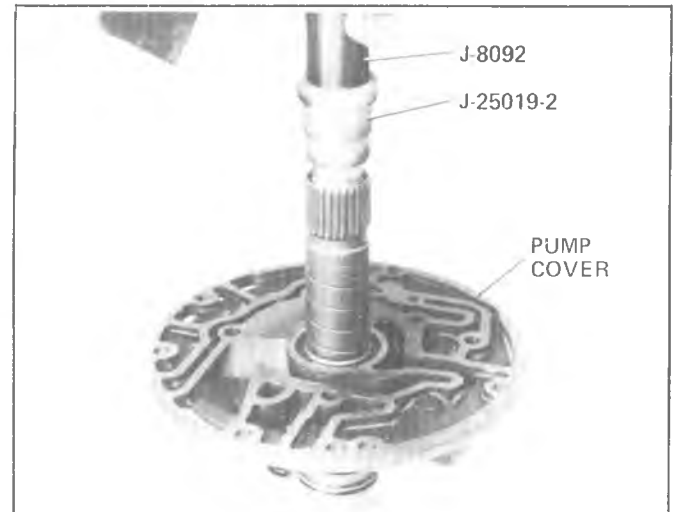

Fig. 7A-169A--Installing Pump Cover Bushing - Front
3. Install speedometer driven gear assembly into case (Fig. 7A-167A).